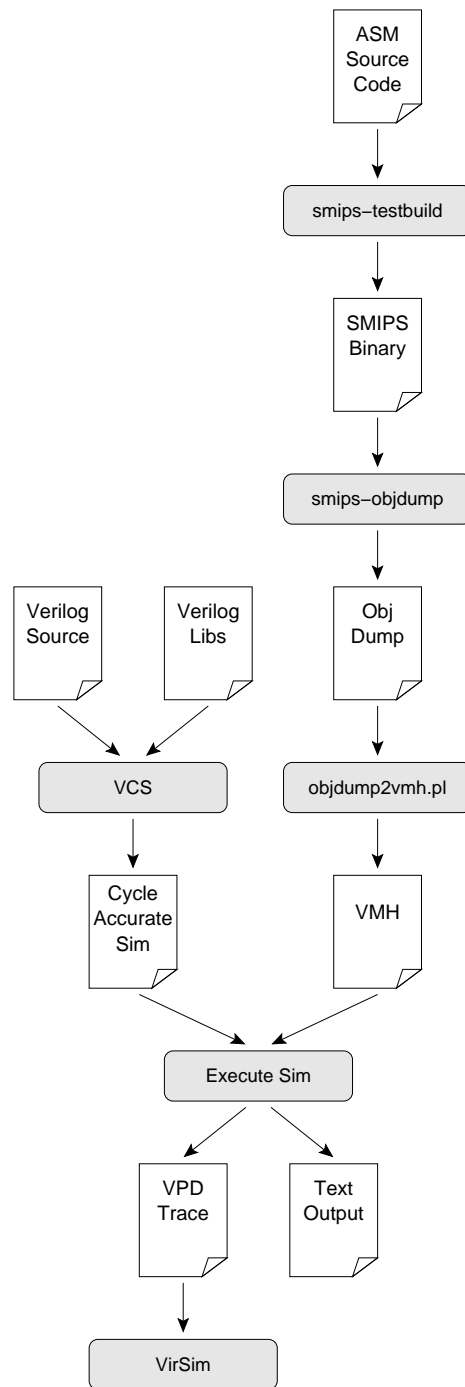
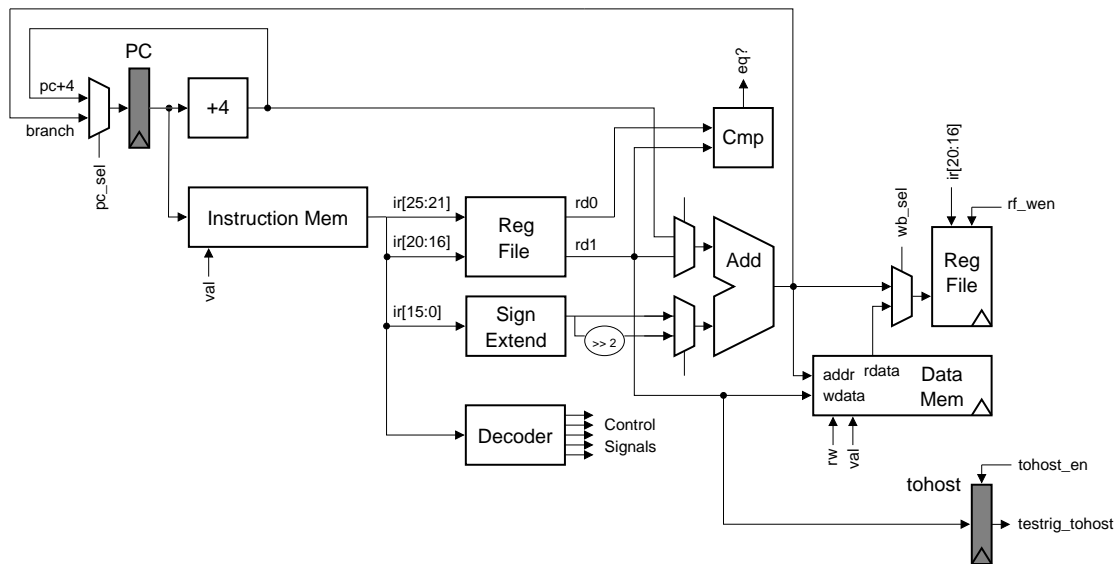

Figure 1: VCS and SMIPS Assembler Toolflow
Figure 2: Block diagram for Unpipelined SMIPsv1 Processor
In this tutorial you will gain experience using Synopsys VCS to compile cycle-accurate executable simulators from Verilog RTL. You will also learn how to use the Synopsys Waveform viewer to trace the various signals in your design. Figure 1 illustrates the basic VCS and SMIPS assembler toolflow. VCS takes a set of Verilog files as input and produces a simulator. When we execute the simulator we need some way to observe our design so that we can measure its performance and verify that it is working correctly. There are two primary ways to observe our design: (1) we can use `$display` statements in our Verilog RTL to output textual trace information, or (2) we can instruct the simulator to automatically write transition information about each signal in our design to a file. There is standard text format for this type of signal transition trace information called the Value Change Dump format (VCD). Unfortunately, these textual trace files can become very large very quickly, so Synopsys uses a proprietary compressed binary trace format called VCD Plus (VPD). We can view VPD files using the Synopsys waveform viewer called VirSim.
We will be using a simple unpipelined SMIPSV1 processor as our design example for this tutorial, and thus you will also learn the how to build and run test codes on the processor simulator. Figure 2 shows the block diagram for the example processor. Figure 1 shows the SMIPS assembler toolflow which starts with an SMIPS assembly file and uses several tools to generate a Verilog Memory Hex (VMH) file suitable to run on the cycle-accurate simulator. This tutorial assumes you are familiar with the SMIPS ISA. For more information please consult the *SMIPS Processor Specification*.
Refer back to Figure 1 to see how the SMIPS assembler fits into the overall toolflow. The `smips-testbuild` script calls the SMIPS assembler and linker to compile an assembly file into an SMIPS binary. Unfortunately, our SMIPS Verilog test harness cannot read SMIPS binaries directly, so we must use additional tools to convert the SMIPS binary into a usable format. The `smips-objdump` program takes the SCALE binary as input and produces a textual listing of the instructions and data contained in the binary. The `objdump2vmh.pl` Perl script converts this text `objdump` into a Verilog Memory Hex (VMH) file which the Verilog test harness can read into a magic memory.